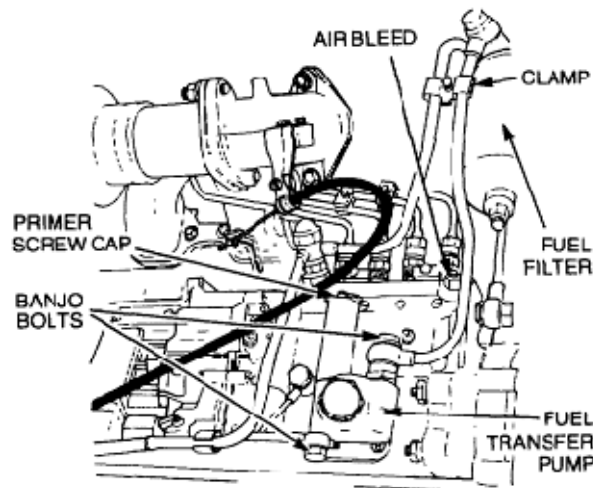

Figure 29 Fuel Transfer Pump Removal
- b. Loosen the clamp securing the two lines (Figure 29).